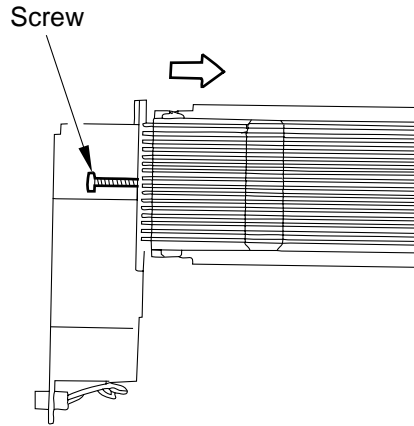

Figure 4-330
- 3) Loosen the mounting screw, and move it in the direction of the arrow shown in Figure 4-330; then, fix it in place temporarily.